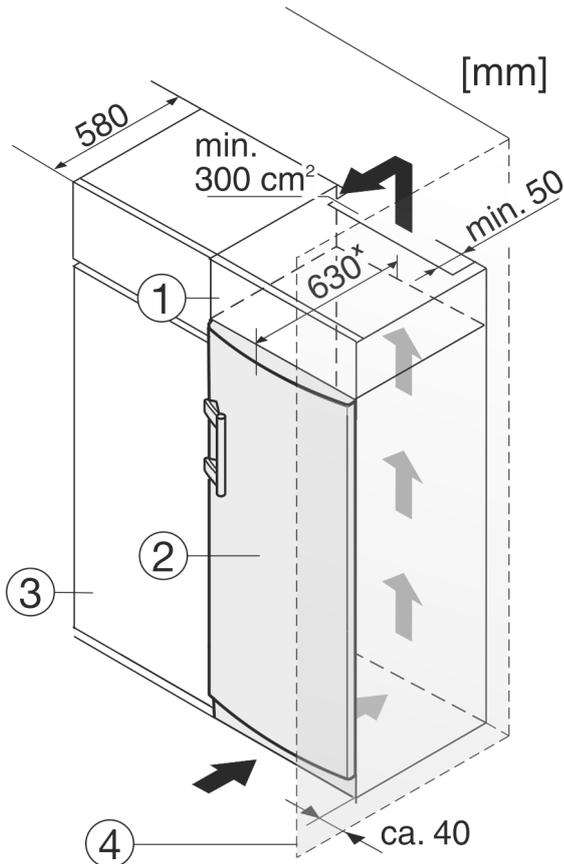

Fig. 12
- (1) Top cupboard (3) Kitchen cabinet
(2) Appliance (4) Wall
The appliance can be built into kitchen units. A top cupboard Fig. 12 (2) can be added above the appliance Fig. 12 (1) up to the height of the fitted kitchen units.
When fitting kitchen cupboards around the appliance (max. depth 580 mm), you can install the appliance directly next to the kitchen cupboard Fig. 12 (3). The appliance protrudes 34 mm * to the side and 50 mm * in the centre of the appliance in relation to the kitchen cupboard front.
If the appliance is set up with the hinges next to a wall Fig. 12 (4), the distance between the appliance and the wall must be at least 40 mm. This is how far the handle protrudes when the door is open.